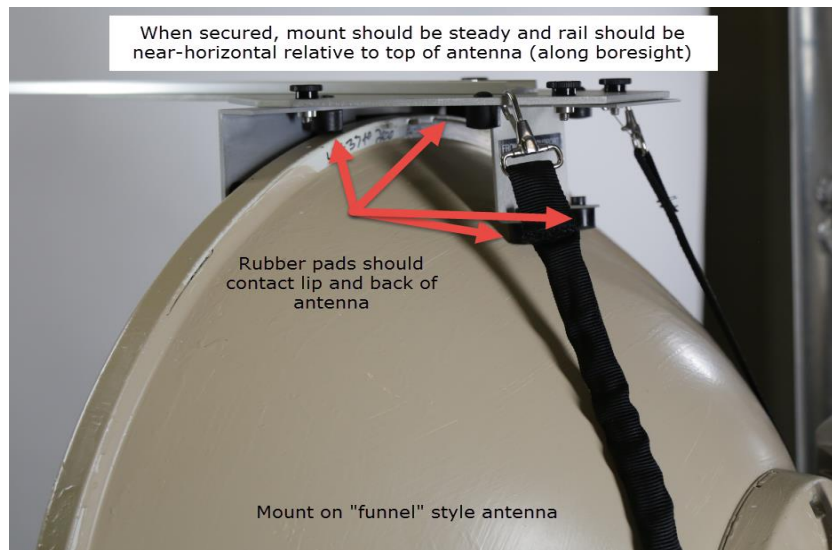

Figure 10
- 2) Place the mount on top of the antenna shield, making sure the rubber pads are in contact with the edge of antenna. Slide the adjustable support bracket forward or back to bring the rubber pads in contact with the back of the antenna and in such a way that the mount rail is approximately perpendicular relative to the antenna face. Tighten thumbscrews. See Figure 10.